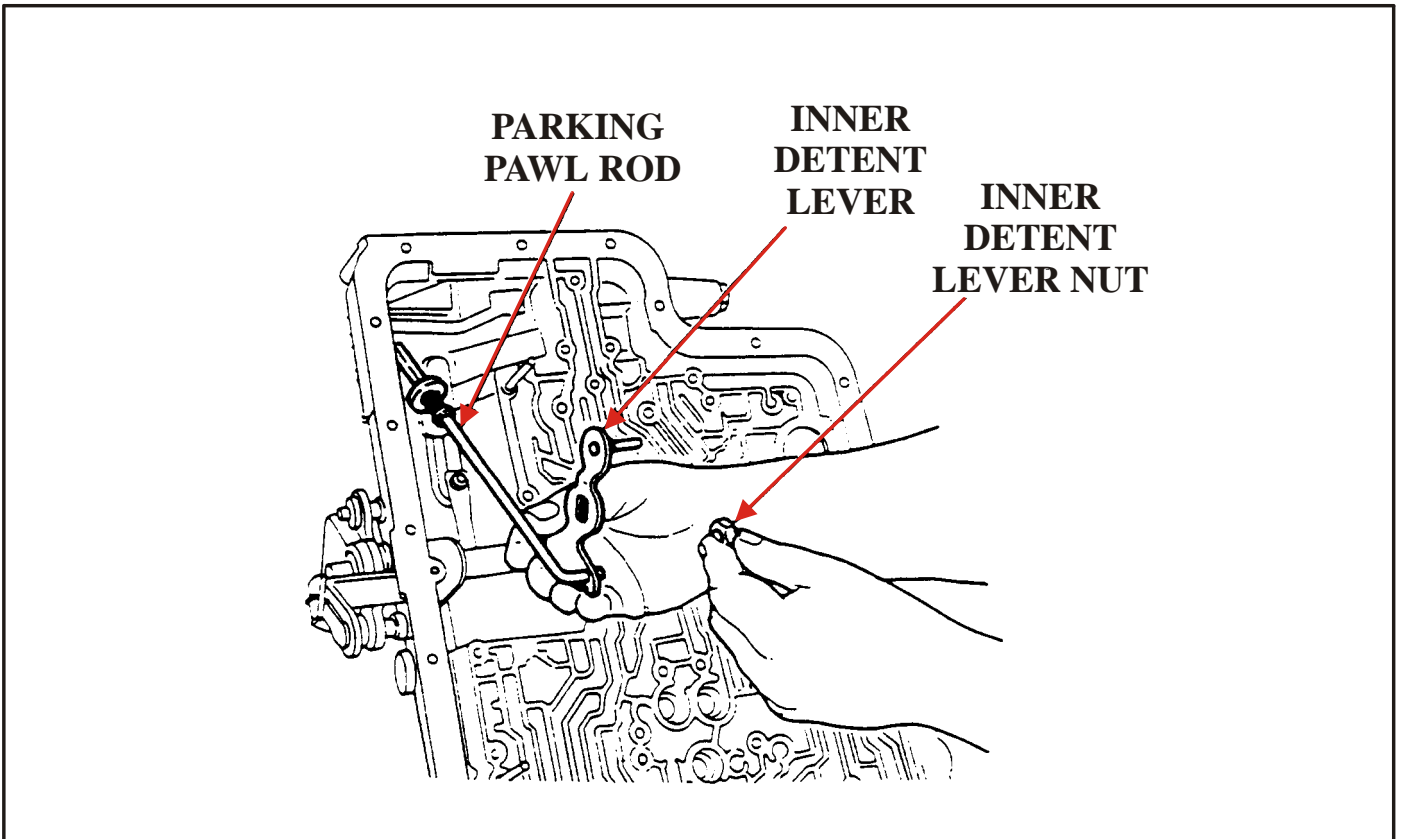

Figure 4
4. Remove detent rooster cone and park actuating rod (See Figure 4).